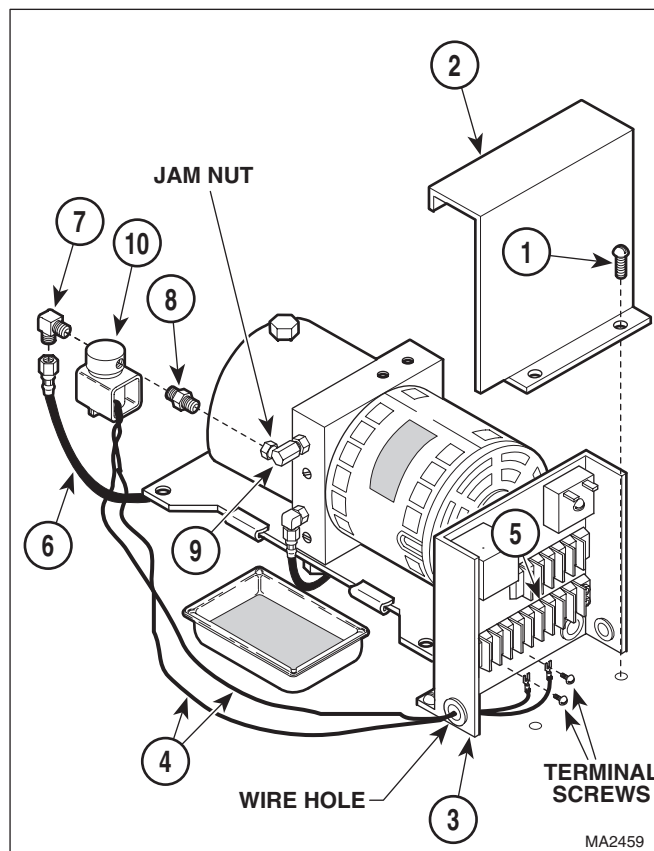

Figure 4-5.1 Anti-cavitation Solenoid Valve Removal / Installation
- (1) Unplug table power cord from outlet.
- (2) Remove motor cover assembly (Refer to para 4.2).
- (3) Remove two screws (1, Figure 4-5.1) and control cover (2) from control panel (3).
- (4) Loosen two terminal screws; then tag and disconnect anti-cavitation solenoid valve wires (4) from terminal block (5).
- (5) Pull anti-cavitation solenoid valve wires (4) out thru wire hole.
- (6) Disconnect hose assembly (6) from elbow (7).